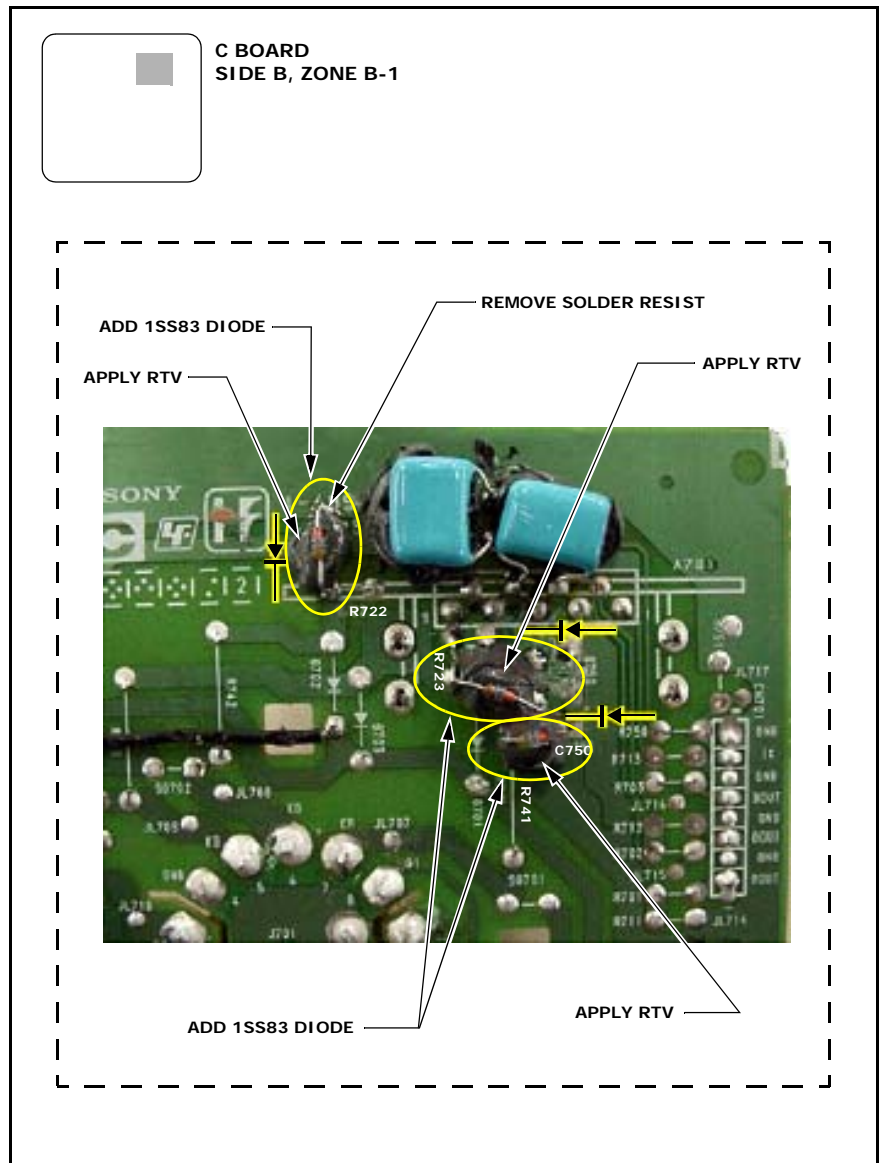

Figure 1
1. Scrape to remove the coating of solder resist over the GND point near R722 as shown in Figure 1.
- (A) R722 (left) GND
- (B) R723 (bottom) . . . C751 (GND)
- (C) R741 (top) C750 (negative)
3. Apply RTV as shown in Figure 1.